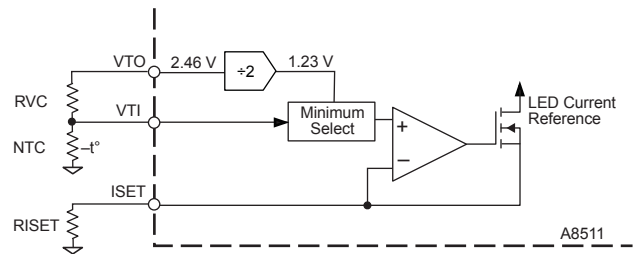

Figure 5. Thermal derating reference circuit
- Analog dimming using the VTI pin. External DC voltage can be applied to the VTI pin to control LED current. LED current varies as a function of voltage on the VTI pin. This configuration is shown in figure 5.
**Thermal Derating** Thermal derating can be achieved by connecting an NTC thermistor between VTI and ground, as shown in figure 5. When the A8511 is enabled and  $V_{TI} > 1.1$  V, 100% current for the LEDs is controlled by the ISET and DIM pins. When  $V_{TI}$  falls below 1.1 V,  $V_{ISET}$  starts to follow  $V_{TI}$ , resulting in  $I_{LEDx}$  varying proportionately with  $V_{TI}$  represented by the overlap of the dotted and solid curves. The proportion of  $I_{LED}$  to  $V_{TI}$ , when LED current is controlled through the VTI pin, is calculated as: